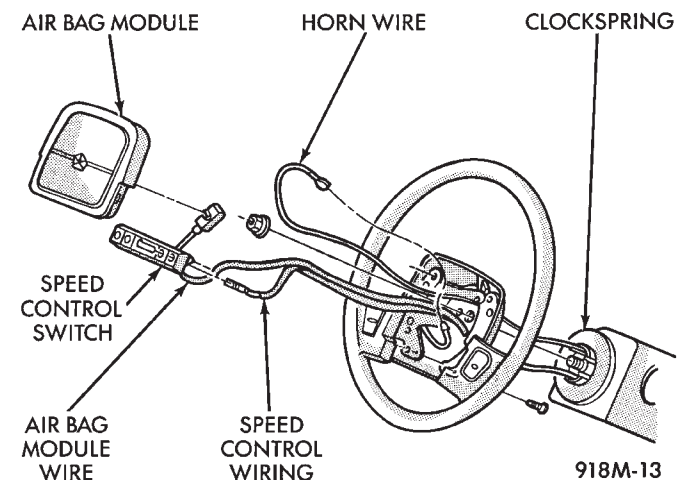

Fig. 11 Steering Wheel Wiring
- (1) If the clockspring is not properly positioned or if front wheels were moved, follow the clockspring centering procedure before installing steering wheel. With the front wheels in the straight ahead position. Position the steering wheel on the steering column. Making sure to fit the flats on the hub of the steering wheel with the formations on the inside of the clockspring. Pull the air bag and speed control wires through the lower, larger hole in the steering wheel and the horn wire through smaller hole at the top. Make sure not to pinch wires (Fig. 11).